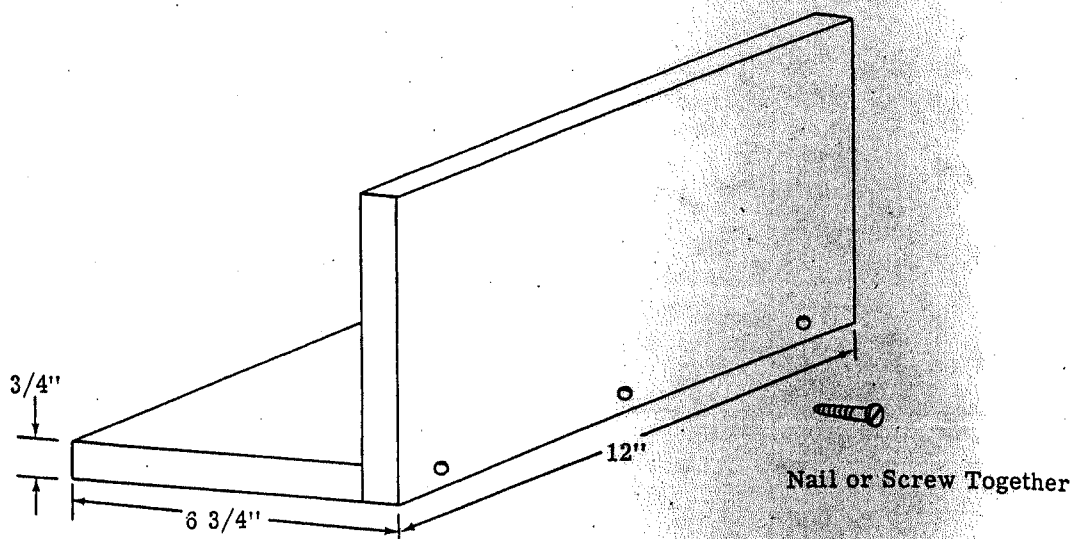

Figure 24. Home Made "V" Block for Alignment of Pump Cartridge Kit.
- i. Build a "V" block from hardwood (See Figure 24) or if a metal "V" block is available, use that. Place the cartridge into the "V" block on its side. Loosen socket head screws (20) enough to allow each section of the cartridge to come into alignment within the "V" block. Torque tighten socket head screws (20) as noted in Table 5. Recheck alignment after tightening.